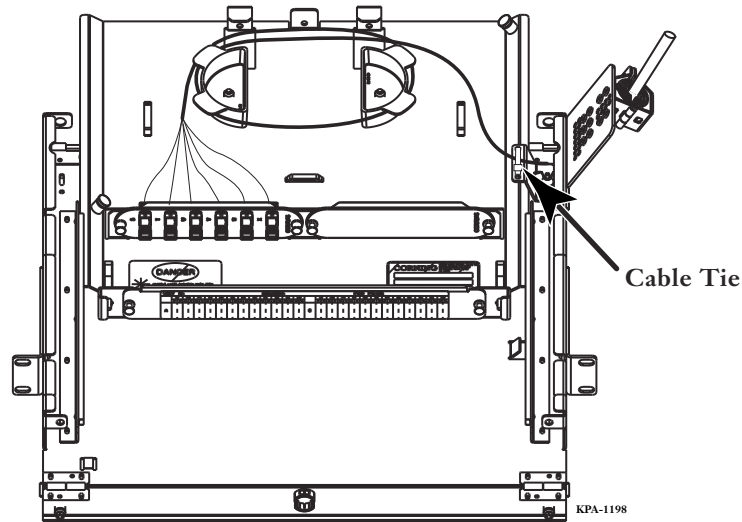

Figure 7 — Cable Slack Routing and Connector Installation
- Step 2:** Install connectors into the adapters at the rear of the connector panels (Figure 7).